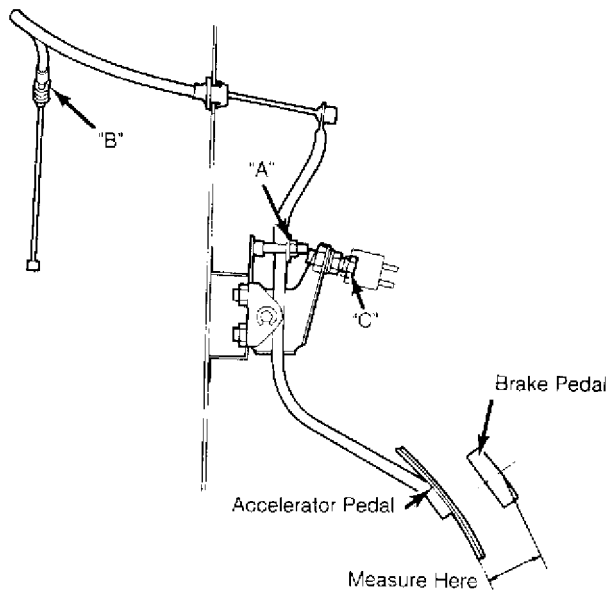

Fig. 8: Adjusting Accelerator Cable and Pedal Height
1) Check accelerator pedal position. Pedal should be 1.5-1.9" (37-47 mm) lower than brake pedal. See Fig. 8. If necessary, adjust nut "A" to obtain correct position.